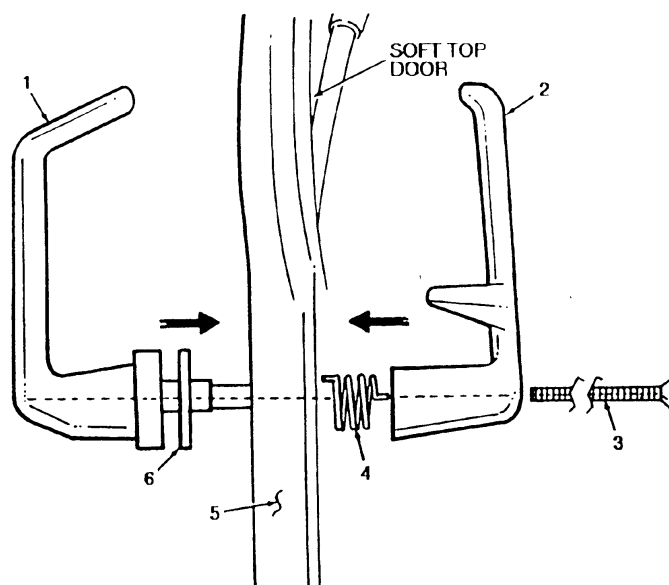

FIGURE 3-17
12. Position washer (6) on outer door handle (1) atid Install spring (4) In the inner door handle (2). Place handles on soft-top) door (5) and secure with shortened screw (3). (see figure 3-17)